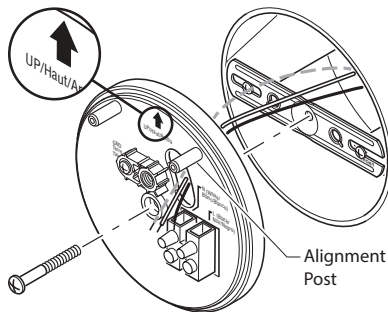

Figure 3
3. Route the junction box wires through the hole in the mounting plate (see Figure 3).
4. Place the mounting plate against the junction box (see Figure 3).
5. Insert the small mounting bolt through the mounting plate hole located below the threaded hole. Thread the bolt into the center hole of the mounting bracket (see Figure 3). Tighten bolt securely.
2. Align the two alignment posts on the mounting plate (see Figure 3) with the two alignment holes on the rear of the light fixture and press the light fixture onto the mounting plate.